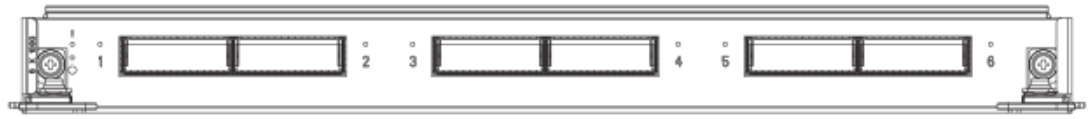

FIGURE 8 6x100 GbE line card
- 6x100 GbE line card modules — Ports are numbered from 1 through 6, from left to right when installed in the switch. Refer to Figure 8.